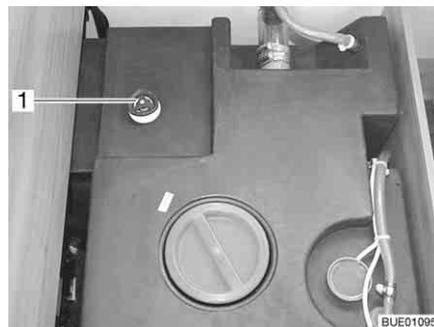

Fig. 202 Water tank with handle
- Turn the handle (Fig. 202,1) on the water tank in a clockwise direction as far as it will go.
- Turn the handle (Fig. 202,1) on the water tank in an anticlockwise direction as far as it will go. Excess water will drain away leaving 60 litres in the tank.